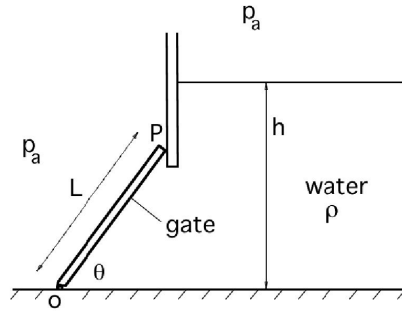

Figure P2.48
2.48 A gate of length L , width w , uniform thickness t , and density ρ_s is held by a frictionless hinge at O and rests against a vertical wall at P , as shown in Figure P2.48. On the one side the gate is exposed to atmospheric pressure, and on the other side there is water of density ρ . When the water depth is h , the gate is about to open. Under these conditions, find the thickness of the plate in terms of L , ρ_s , ρ , θ , and h . Indicate all your working clearly, and state all your assumptions, and indicate your coordinate system.